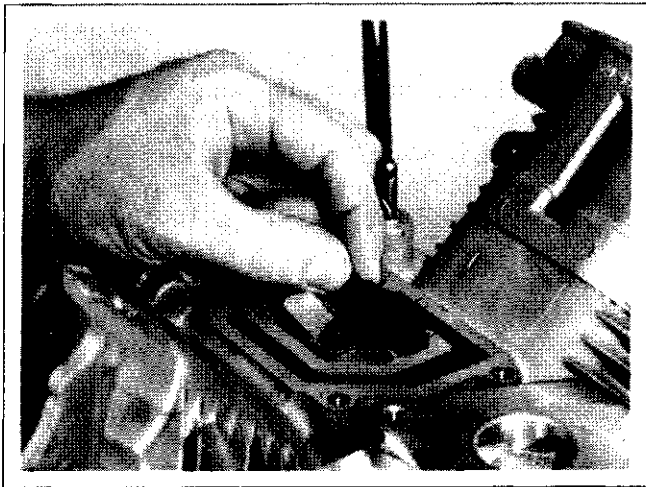

Figure 11-50. Installing New Air Breather Filter.
4. Insert the air breather filter into crankcase. See Figure 11-50.